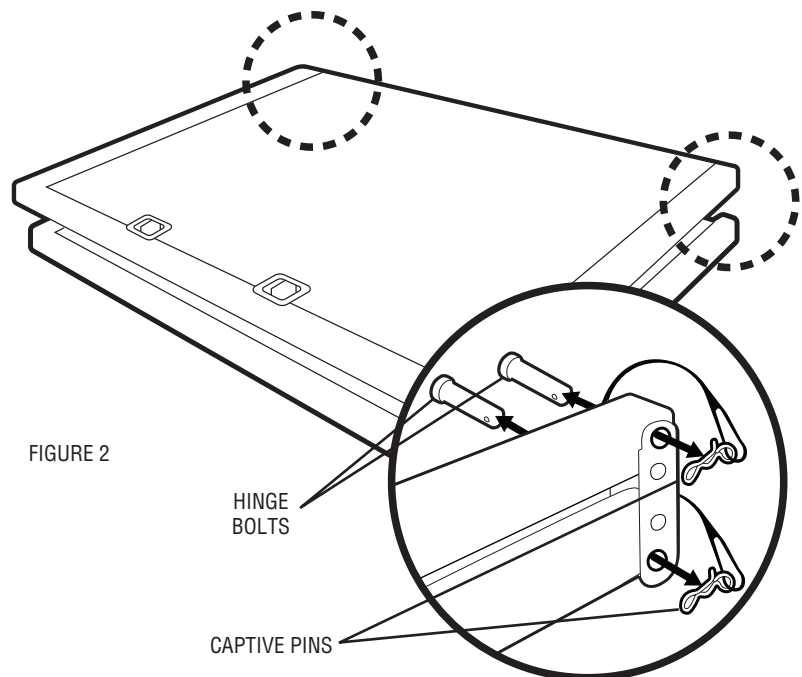

FIGURE 2
Remove (2) captive pins, then remove (2) hinge bolts (both sides of base) (FIGURE 2).